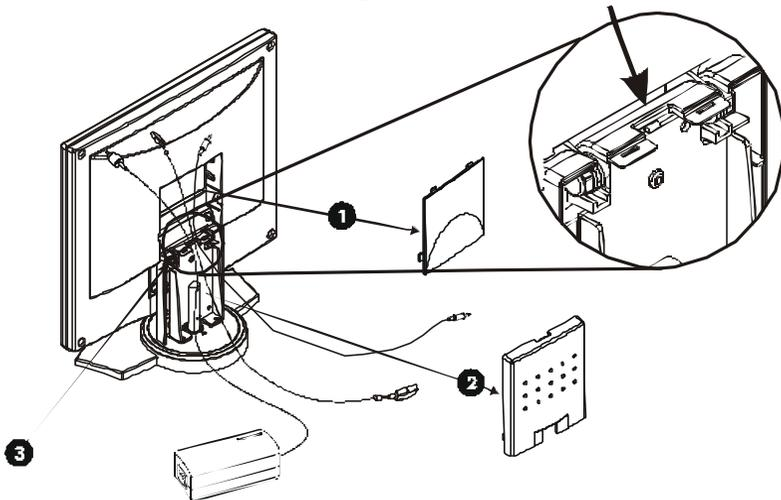

Figure 1-3
3. Place the signal cable, the DC power cable and the audio cable into correct grooves ❸ (See Fig. 1-3).